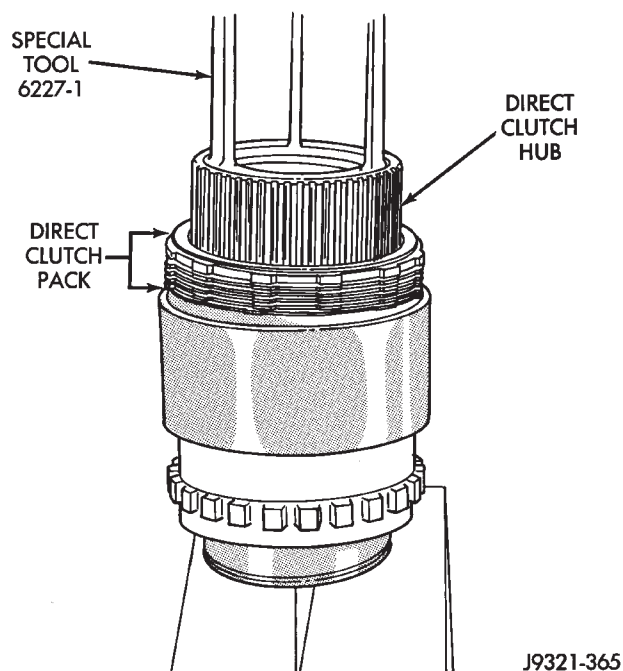

Fig. 22 Direct Clutch Pack Removal
- (7) Release press load **slowly and completely** (Fig. 22).
- (8) Remove Special Tool 6227-1. Then remove clutch pack from hub (Fig. 22).